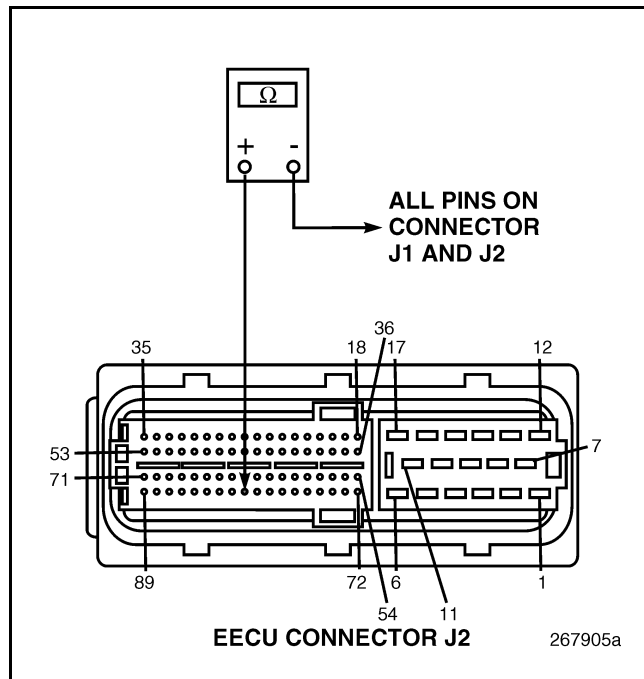

Figure 64
4. Check for continuity between EECU harness connector J2 pin 81 and all other pins on EECU connectors J1 and J2 (see Figure 64).